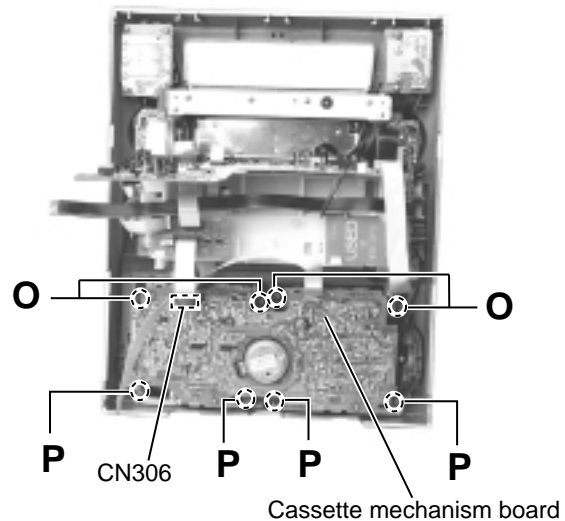

Fig.16
■ Removing the cassette mechanism assembly (See Fig.16)